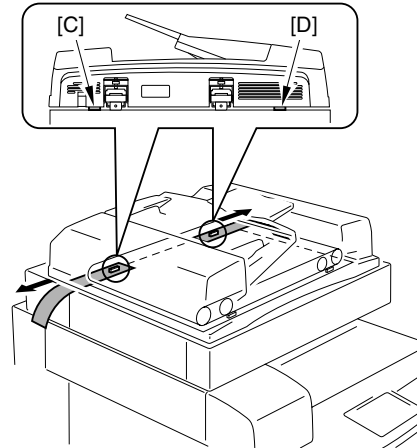

Fig. 3-2
- 3) Open the ADF. Similarly to Step 1), place a single sheet each at each of 2 positions (C, D) between the belt frame feet on the rear side and the copyboard glass, and close the ADF. (See Fig. 3-2)